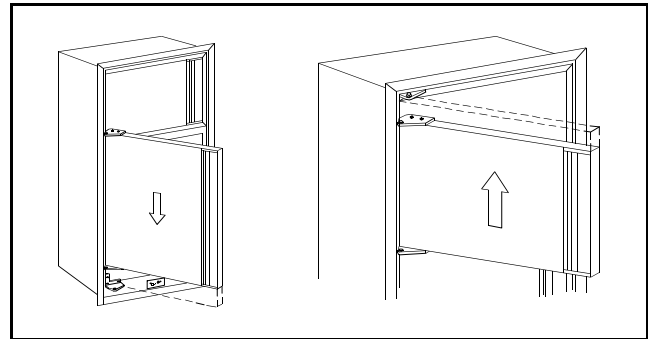

Figure 12
9. Turn the door over so that the end previously at the bottom is now at the top. Relocate the bottom of the door on the bottom hinge pin shoulder. Close door and align holes in top hinge brackets. The magnetic gasket will hold the door in place. Before reinstalling the top door, check to insure that the spacer is in place. (See Figures 12 and 14C)
10. Reposition the upper door in a similar manner as described in Step #9, except the top of the door must be engaged into the hinge pin shoulder before setting the door in place. (See Figure 12)